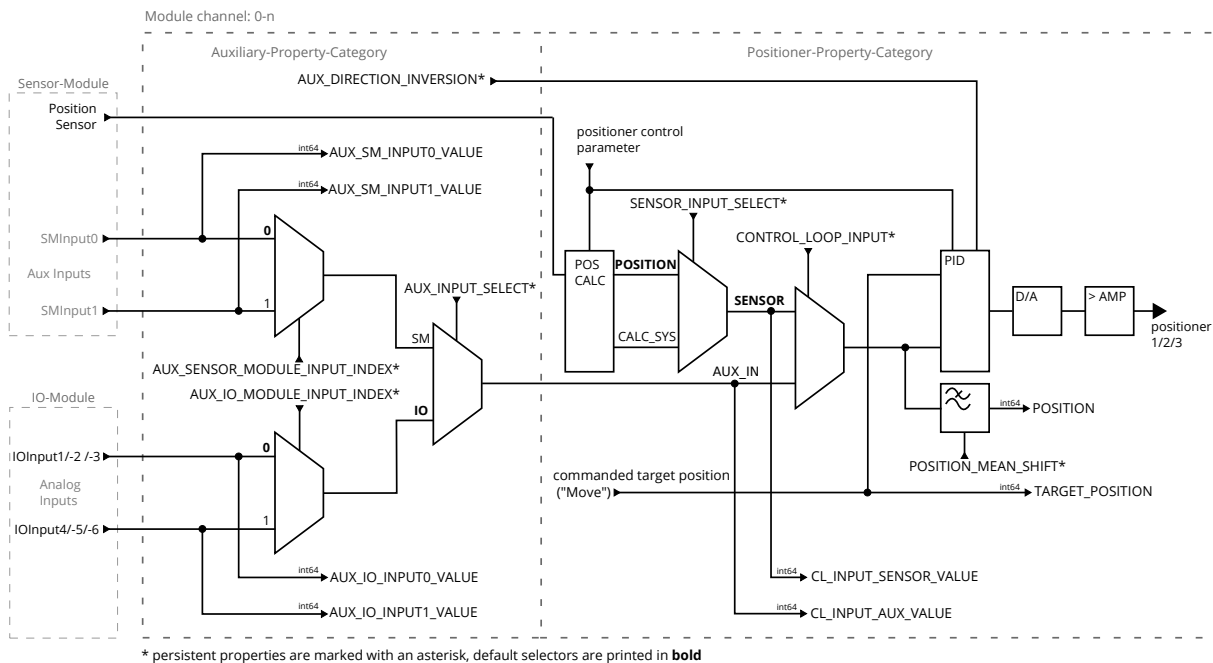

Figure 2.12: Auxiliary Input Configuration (per channel)
- The auxiliary input signal is defined as absolute value, thus it is not possible to define a logical scale offset, e.g. by setting the position with the Position property. Doing so affects the position calculation of an integrated sensor of a positioner (if there is one). Several properties give access to the position of an integrated sensor as well as the auxiliary input values regardless of the actual signal currently used as feedback signal. Refer to figure 2.12 for the different signal paths and properties in this context.